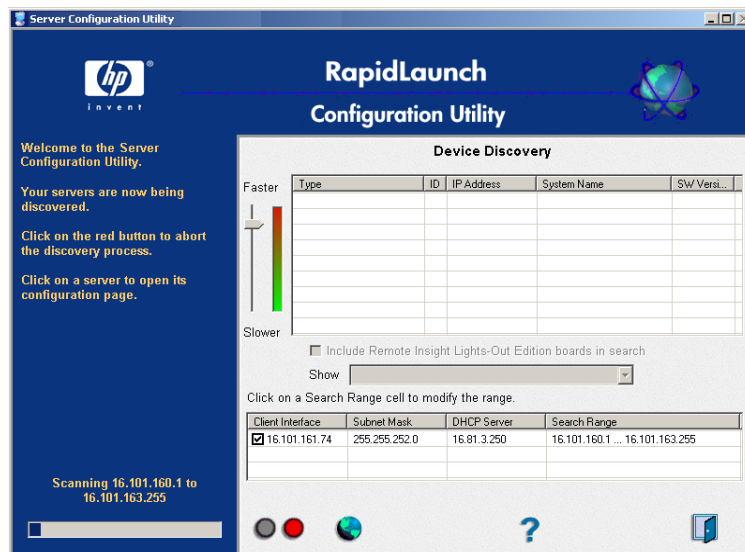

Figure 1: RapidLaunch search screen
- Return to the PC. Select StorageWorks NAS from the **Show** drop-down list to have RapidLaunch list all storage servers on the network, as shown in Figure 1.